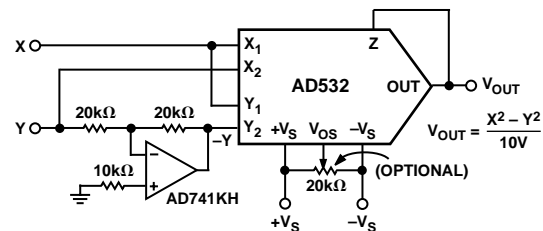

Figure 15. Differential of Squares Connection
The differential input capability of the AD532 allows for the algebraic solution of several interesting functions, such as the difference of squares,  $X_2 - Y_2 / 10 V$ . As shown in Figure 15, the AD532 is configured in the square mode, with a simple unity gain inverter connected between one of the signal inputs (Y) and one of the inverting input terminals ( $-Y_{IN}$ ) of the multiplier. The inverter should use precision (0.1%) resistors or be otherwise trimmed for unity gain for best accuracy.